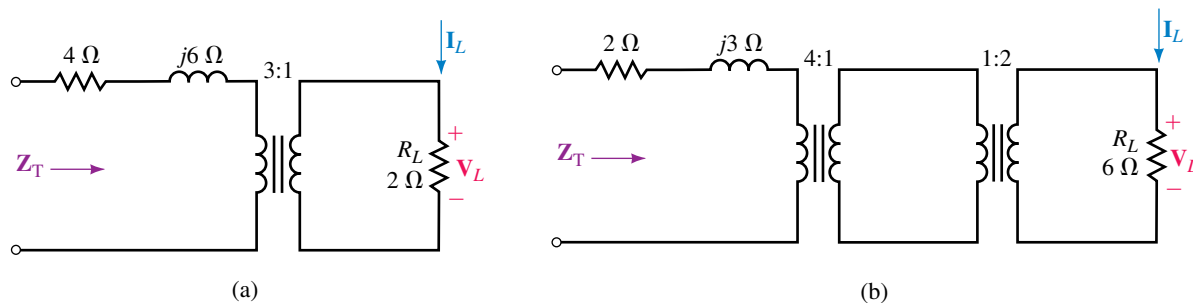

FIGURE 24–73
15. For each circuit of Figure 24–73, determine $\mathbf{Z}_T$.
16. For each circuit of Figure 24–73, if a generator with $\mathbf{E}_g = 120 \text{ V} \angle -40^\circ$ is applied, determine the following: